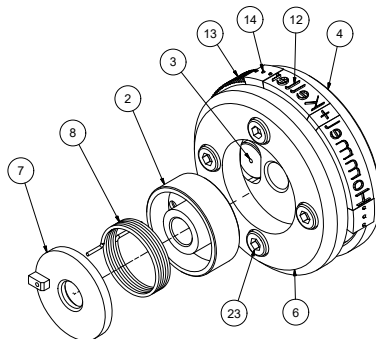

Figure 6: Installation of the spring housing
Slide the spring (Fig. 6, pos. 8) with the longer arm 'a' through the bore of the spring housing (Fig. 6, pos. 2). Then, slide both components into the carrier unit (cf. Fig. 6). Ensure that the arm of the spring is positioned in the bore of the stop pin (Fig. 6, pos. 3). Then, fit the fixing disc with the smooth side first onto the protruding spring arm.